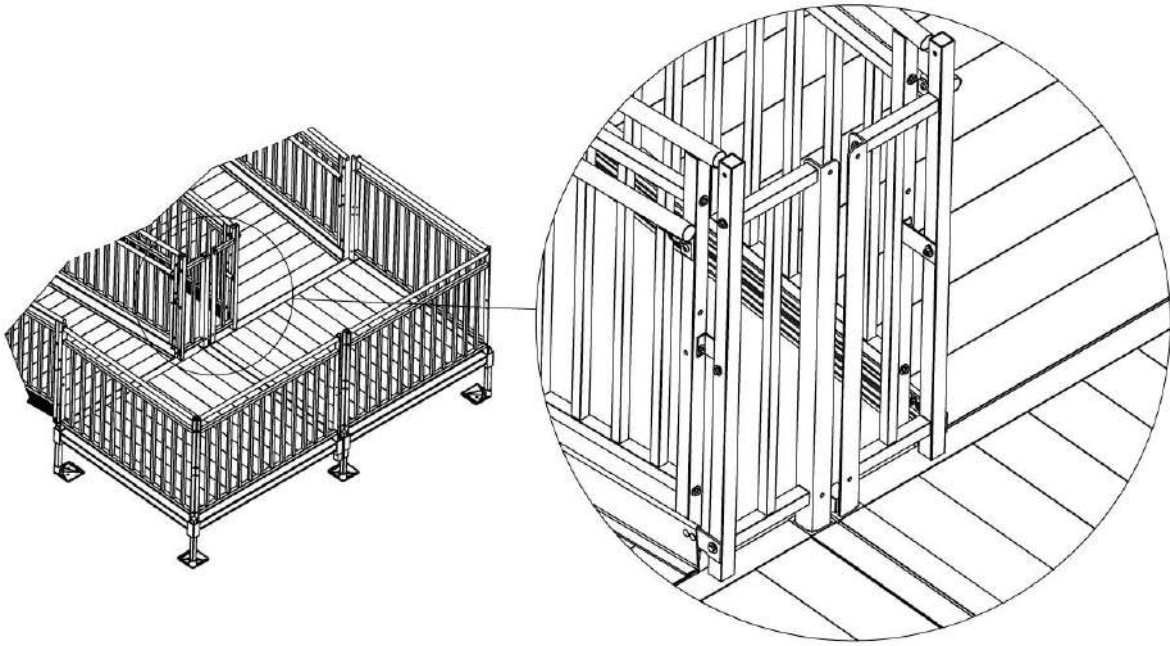

FIG. 5.30
- 5.7.3. The 1-1/2" square x 42-7/16" long closure posts, barrier attachment plates, and closure brackets are all installed at a guarded turn back in the same manner shown in the 'PICKETED GUARD CLOSURE' section except that the spacer between the closure posts and the barrier attachment plates is not used. FIG. 5.30 shows the components installed.